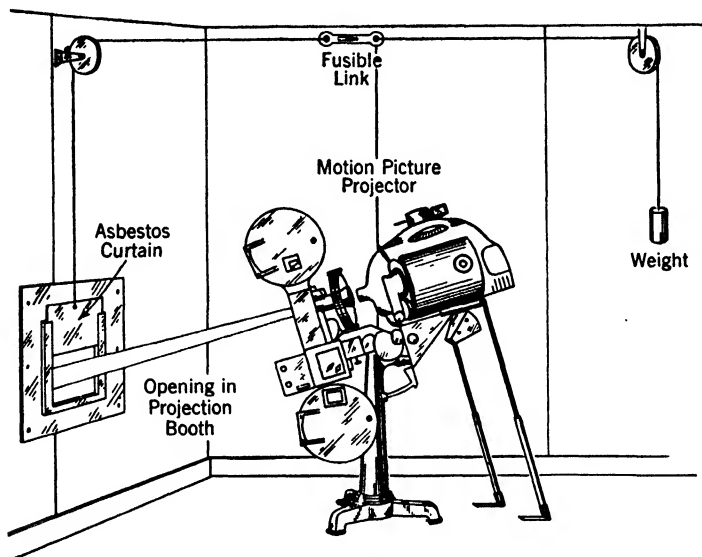

FIG. 20-12.—Flammable film is a fire hazard in theaters. Fusible alloys protect both audience and operator.
24. Explain the means of protecting a theater audience from a fire within the projection booth. (See Fig. 20-12.)